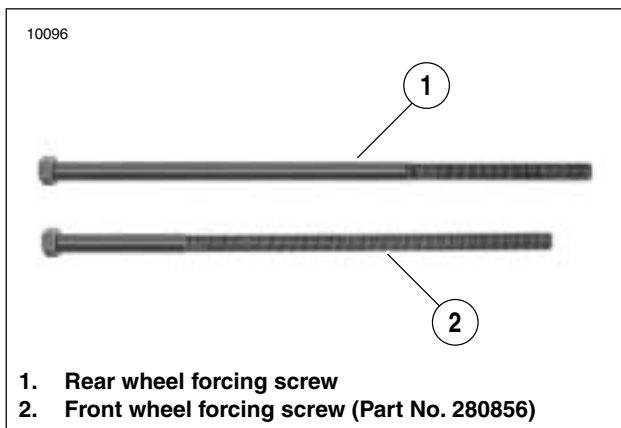

Figure 2-23. Forcing Screws Used for Front and Rear Wheel Bearing Installation
- See Figure 2-23. When installing rear wheel bearings it is necessary to use the FORCING SCREW (1) from the STEERING HEAD BEARING RACE INSTALLER (Part No. HD-39302).
1. Install wheel bearing (3) on rotor side of motorcycle.
2. Install rear wheel spacer (4).
3. Install wheel bearing (3) on sprocket side of motorcycle.
- a. Position sprocket (6) on wheel (5) keeping lip of sprocket facing the inside.
- b. Install **new** sprocket fasteners (7) and washers tightening to 35-37 ft-lbs (48-50 Nm).
5. Install rear rotor (2).
- a. Position rear brake rotor (2) on wheel (5).